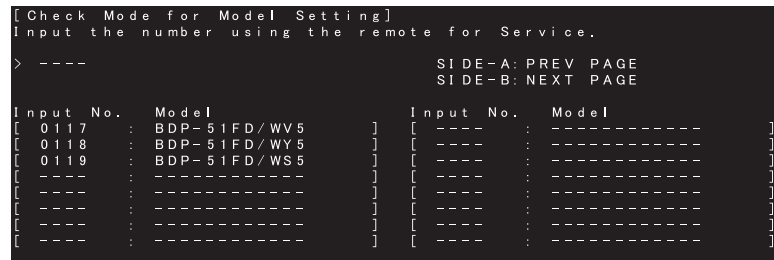

Fig. 3: Screen image 3
- The input numbers and model names will be changed when pages are changed (Fig. 3).